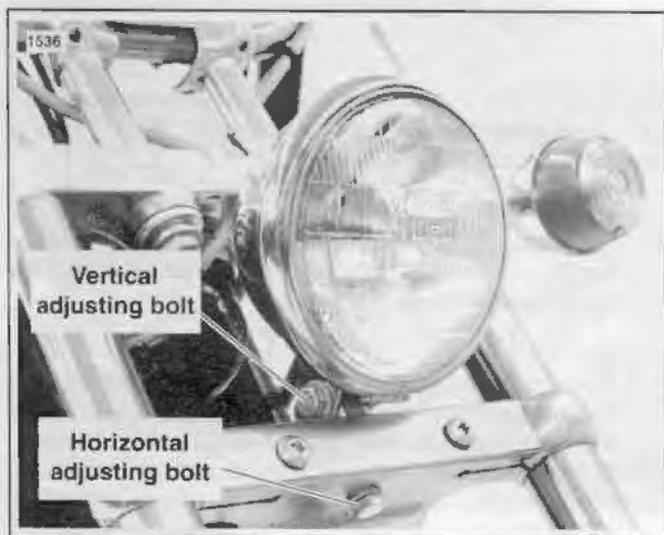

Figure 8-32. Headlamp Adjustment Fasteners
1. See Figure 8-32. Loosen horizontal adjusting bolt to adjust headlamp beam side to side. Loosen vertical adjusting bolt to adjust headlamp beam up and down.